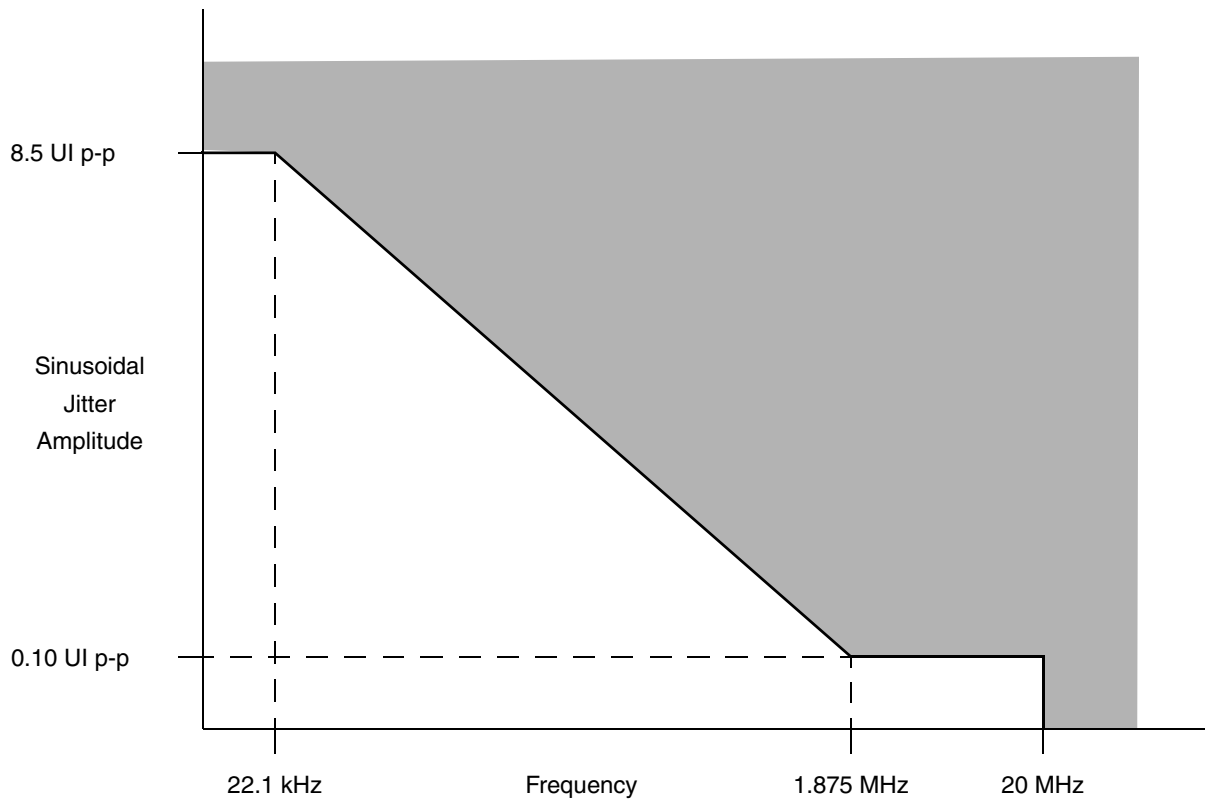

Figure 46. Single-Frequency Sinusoidal Jitter Limits
2. Total jitter is composed of three components: deterministic jitter, random jitter and single frequency sinusoidal jitter. The sinusoidal jitter may have any amplitude and frequency in the unshaded region of Figure 46. The sinusoidal jitter component is included to ensure margin for low-frequency jitter, wander, noise, crosstalk, and other variable system effects.
2. Total jitter is composed of three components: deterministic jitter, random jitter, and single frequency sinusoidal jitter. The sinusoidal jitter may have any amplitude and frequency in the unshaded region of Figure 46. The sinusoidal jitter component is included to ensure margin for low frequency jitter, wander, noise, crosstalk, and other variable system effects.